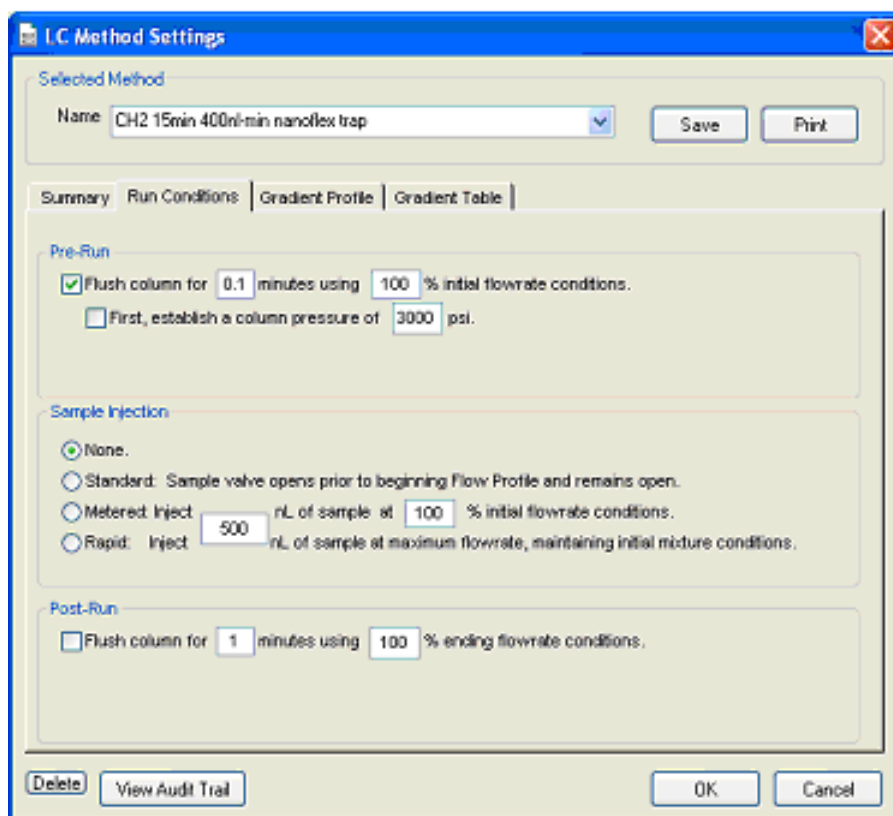

Figure 3-7 LC Method Settings dialog—Run Conditions tab (Nanoflex system)
5. On the **Run Conditions** tab, specify the method as shown in Figure 3-7.